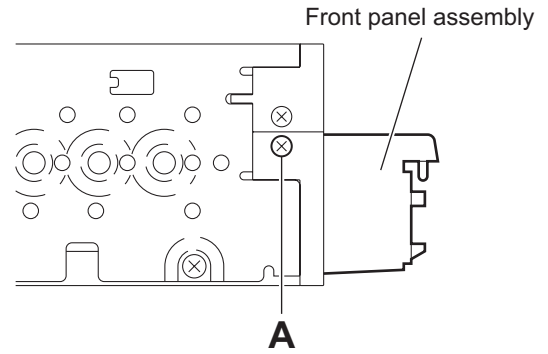

Fig.2
3.1.2 Removing the front panel assembly (See Fig.2 to 4)
- (1) From the both sides of the main body, remove the two screw **A** attaching the front panel assembly. (See Figs.2 and 3)